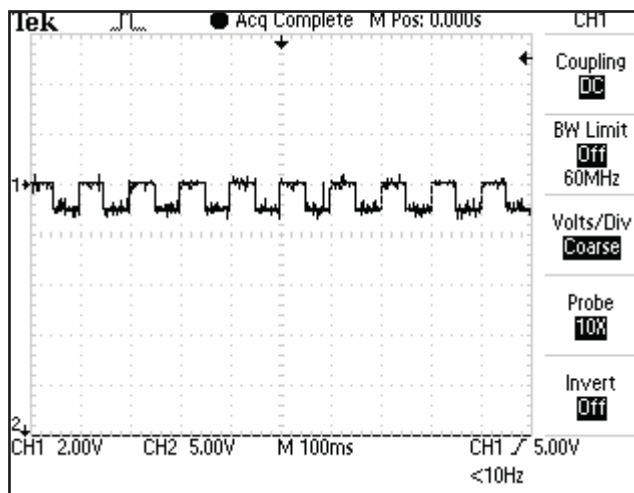

FIGURE 4.9
H. Microcurrent- Figure 4.9 (Vectra Genisys and Intellect Legend XT)